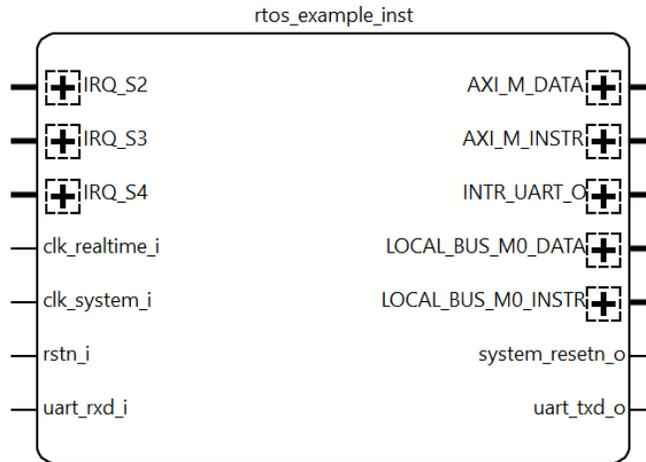

Figure 3.5. Generated Instance
- The CPU IP instance is successfully generated, as shown in Figure 3.5.